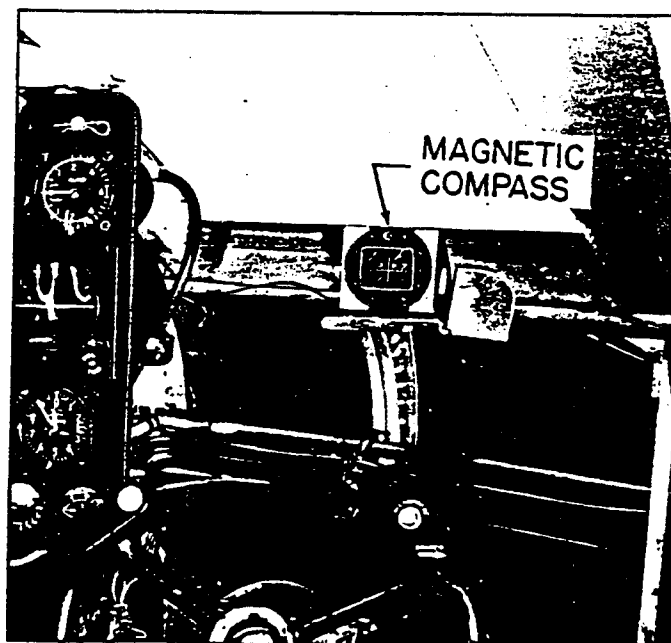

Figure 4. Magnetic Compass
(1) MAGNETIC COMPASS AN5733-2. (See figure 4.)- The magnetic compass is mounted on a bracket attached to the airplane structure just forward of the copilot.